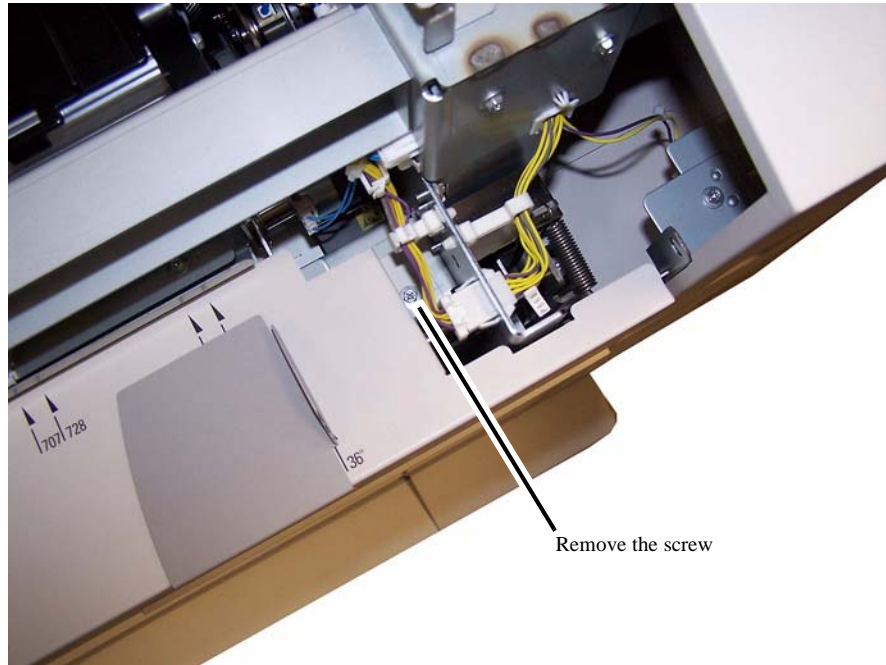

Figure 1 Right top screw location
3. Remove the screw at the left end and at the right end of the Front Upper Cover (Figure 1 and Figure 2).